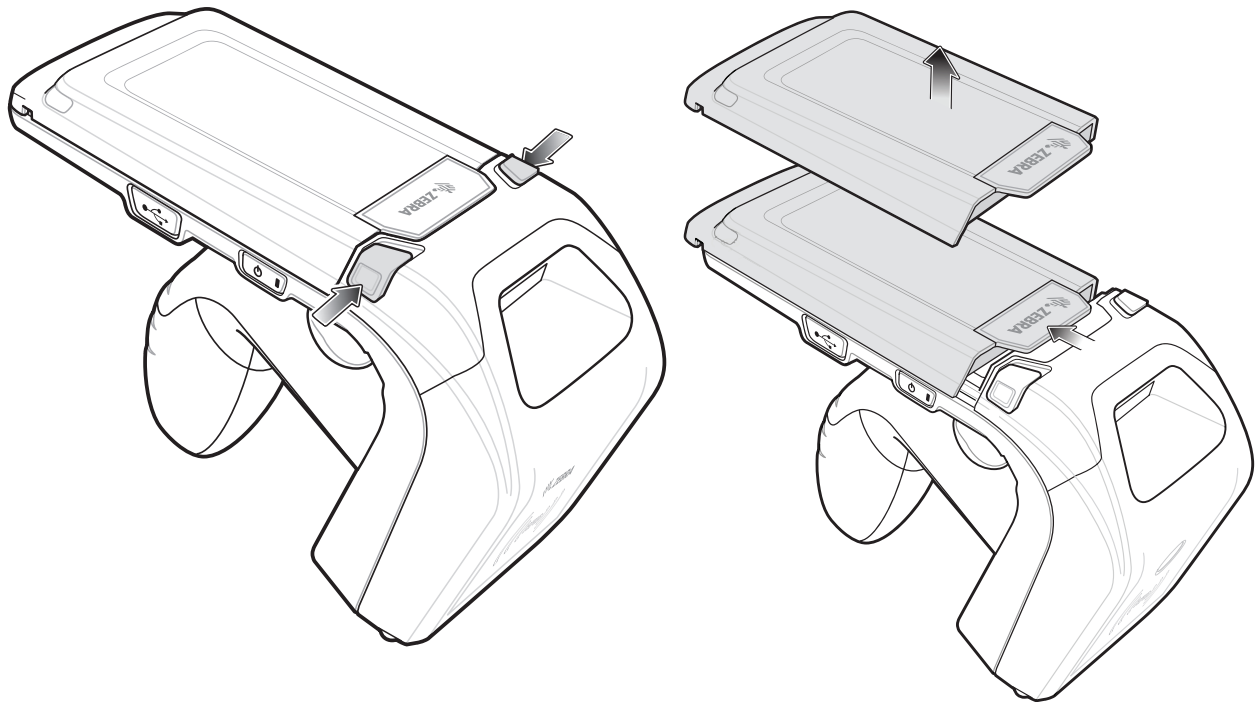

Figure 1-3 *Removing the Battery Cover*
2. Remove the battery cover as shown in Figure 1-3 on page 1-4.
1. Remove the battery cover as shown in Figure 1-3 on page 1-4.